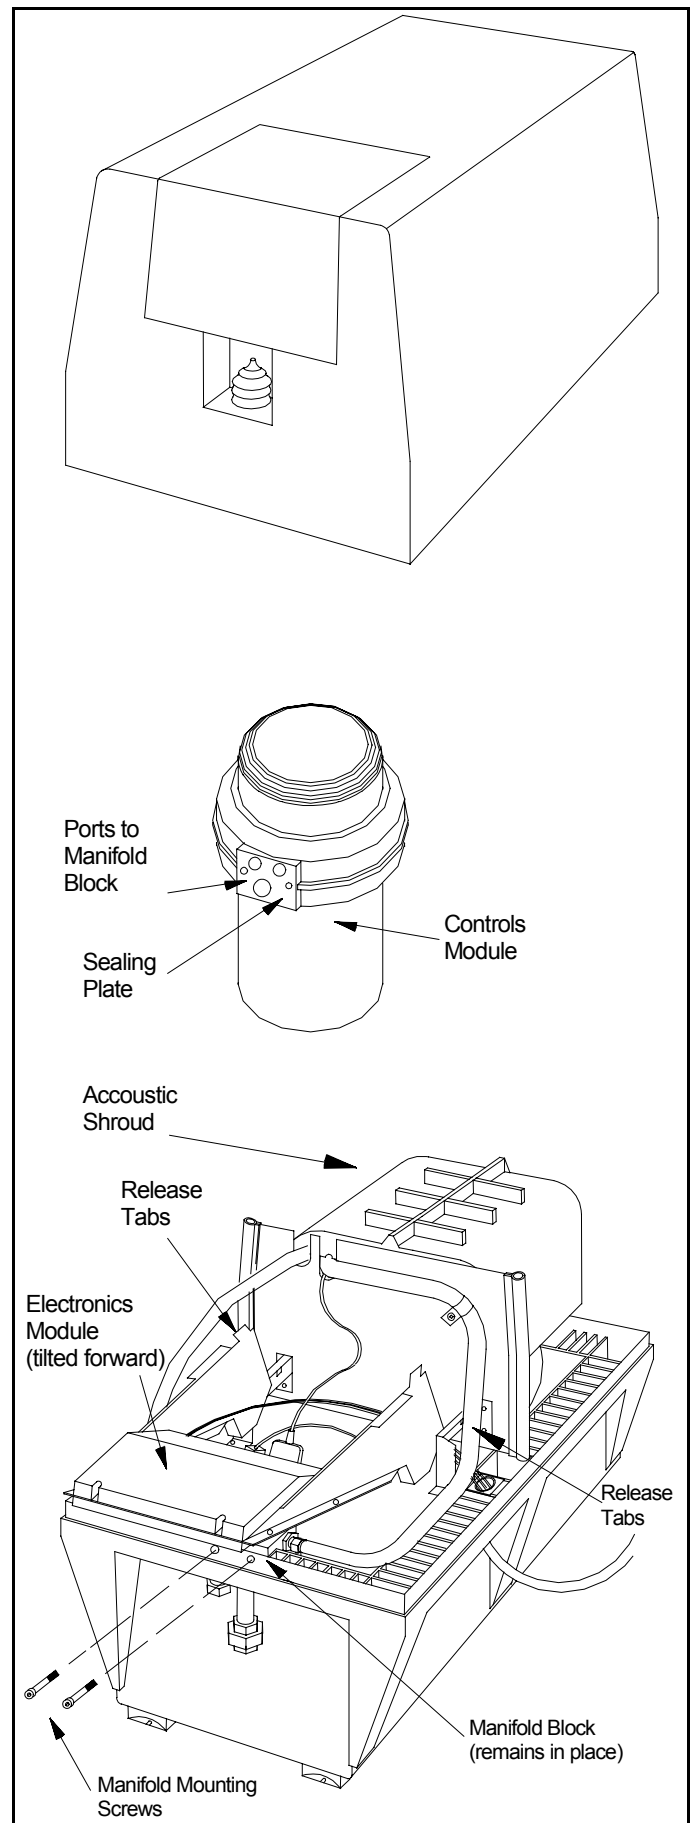

Figure 5 - Control Module Removal
- see Figure 5.
- tilt the Electronic Module forward by depressing the release tabs (see Figure 5).